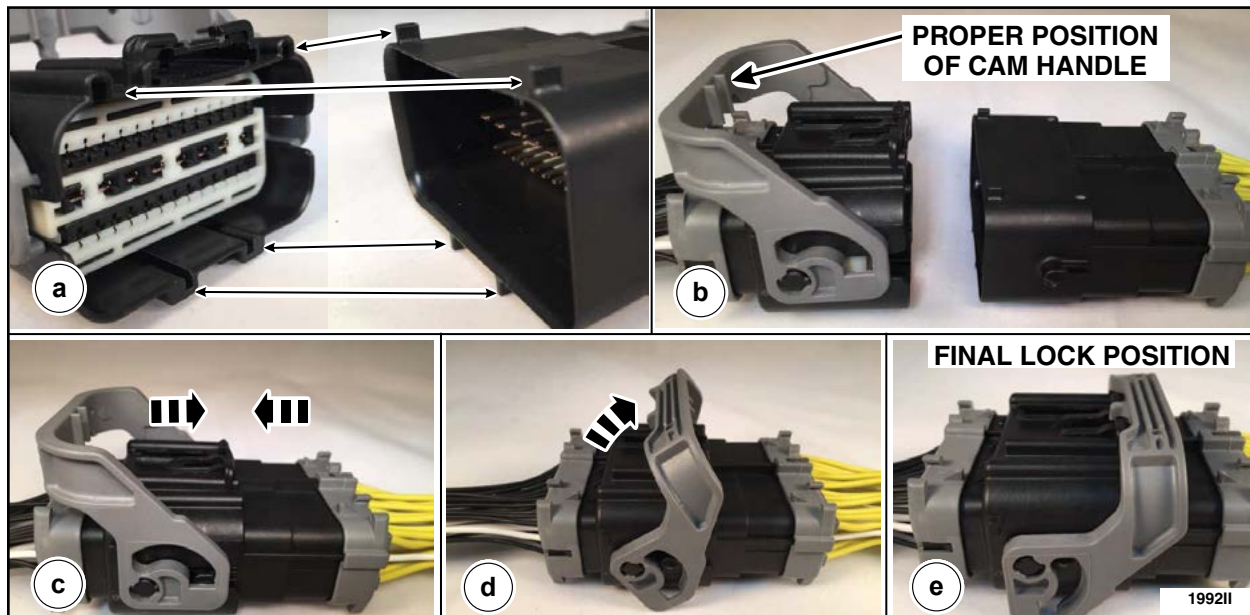

FIGURE 31
5. If disconnected, connect the connector C422 halves together and lock the connector. See Figure 31.